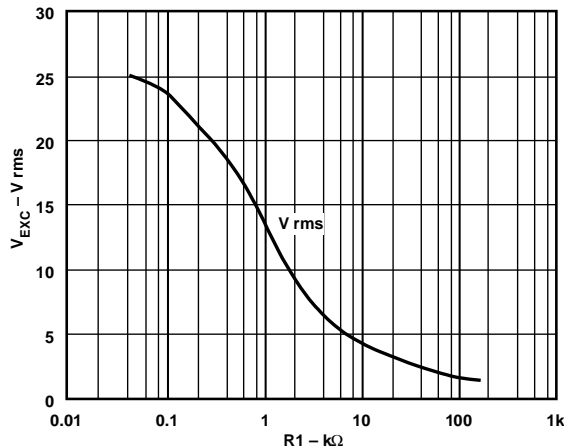

Figure 9. Excitation Voltage  $V_{EXC}$  vs.  $R1$
6. Referring to Figure 9, for  $V_S = \pm 15 \text{ V}$ , select the value of the amplitude determining component R1 as shown by the curve in Figure 9.